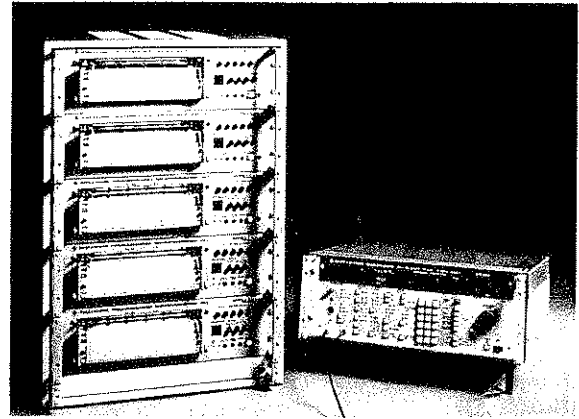
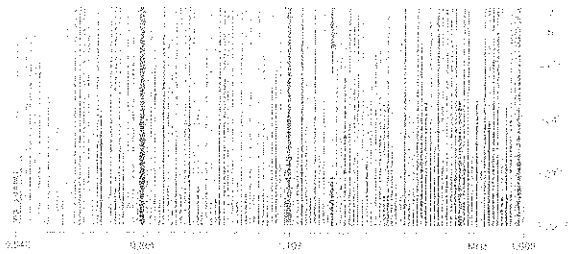

Fig. 13 ESH 3 with five Radiomonitoring Recorders ZSG 3 for scanning five different frequency bands and plotting the band occupancy.
Fig. 12 Frequency-band occupancy over medium-wave band plotted on Radiomonitoring Recorder ZSG 3.
• **Recording of frequency-band occupancy** as a function of time on the Radiomonitoring Recorder ZSG 3. When the signal level exceeds the preset threshold level (= MIN. LEVEL) the recorder traces a dash (Fig. 12). The ESH 3 can drive up to five Radiomonitoring Recorders ZSG 3 in a sequential cycle (Fig. 13).